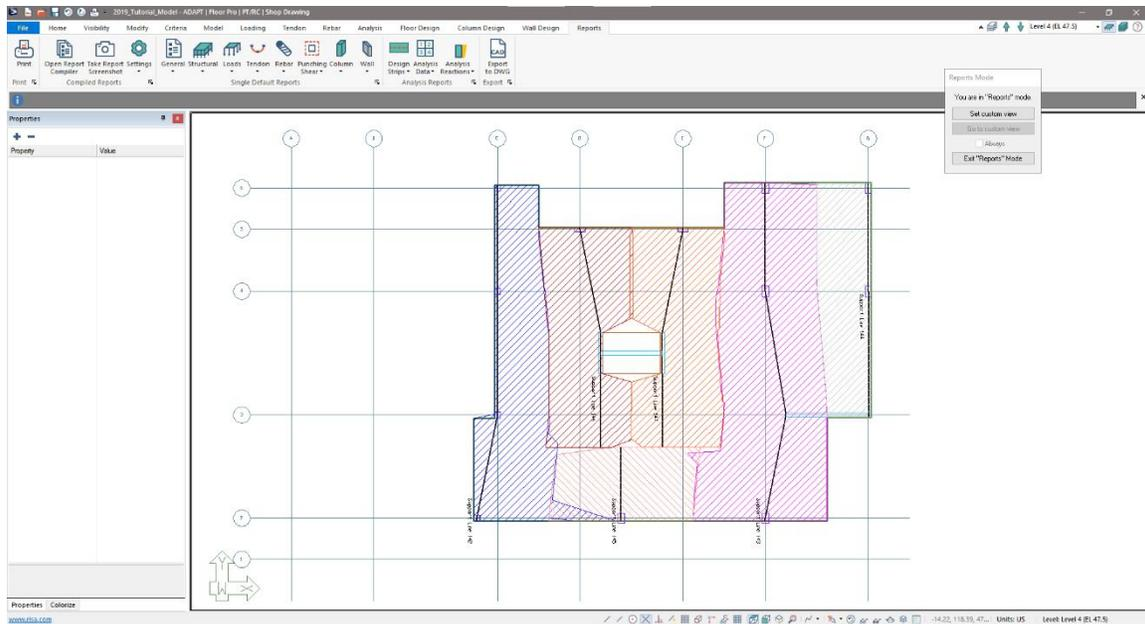

Figure 10-11
- Go to *Reports* → *Analysis Reports* → *Design Strips* → *Design Strips Y-direction*. Click *OK* on the next window that opens. The user will see the strips in the Y-direction on plan as shown in **FIGURE 10-11**.